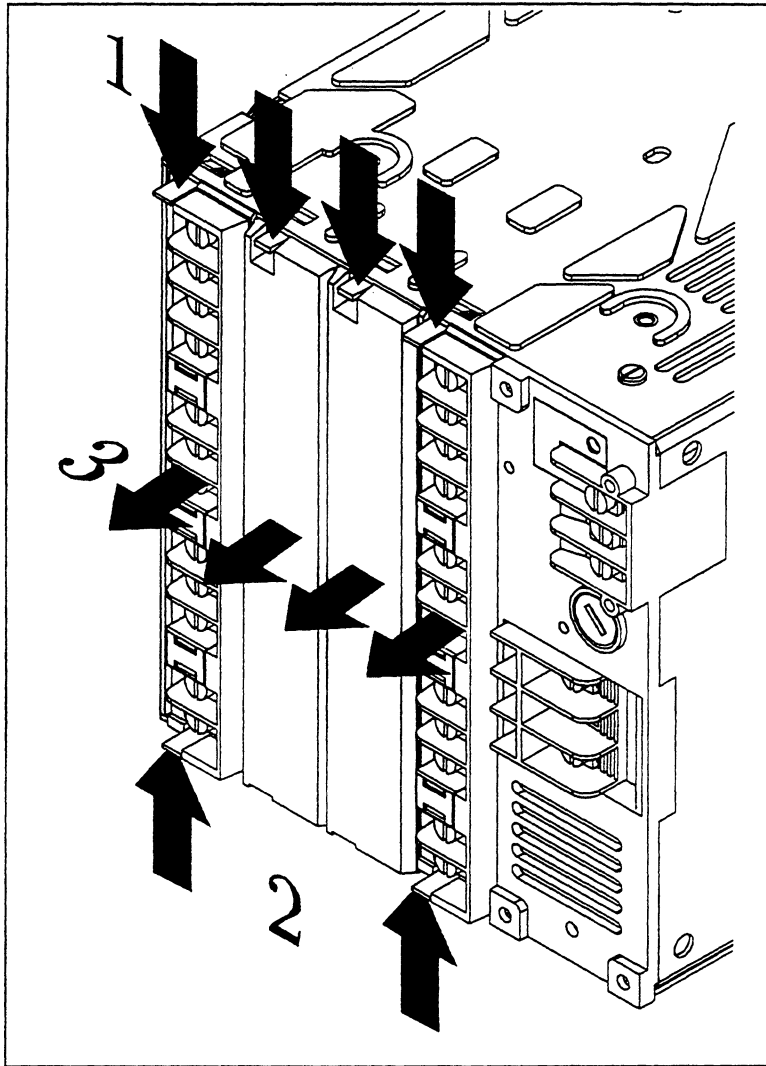

Figure 2-2
2. Remove terminal blocks or filler strip(s). See fig. 2-2.